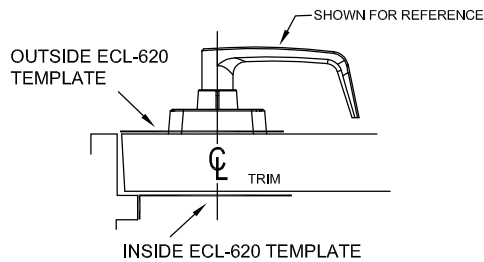

Fig. 4
3. Orient the **INSIDE** template TPL-620 for proper door handing and tape to door per Fig 4. See Fig 5 for hole locations.
- a. Mark, center punch and drill six (6) holes marked "C" on the door.
- b. Mark, center punch, drill and tap the two (2) outer holes of the strike, marked "A" on the frame.
- c. Mark, center punch, drill and tap the two (2)* outer holes of the keeper, marked "B" on the frame.